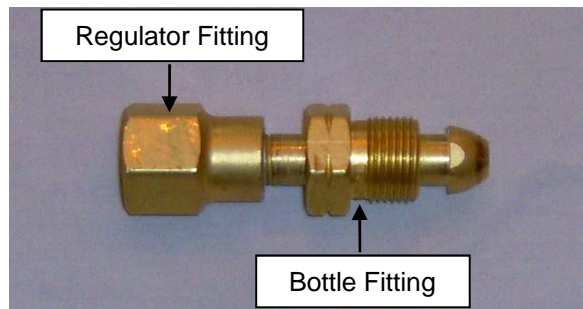

Figure 1
Important Note: Compressed Air Cylinders are supplied with a Female left-hand thread Bottle fitting (CGA-590). Pressure Regulators BEREG01 or BEREG02 supplied in the Blowing Head Equipment Kit have a Male right-hand thread Nut (CGA-580). A CGA-590 Industrial Air Cylinder-to-CGA-580 Nitrogen Regulator Cylinder Adapter is therefore required to connect the Pressure Regulators to the Bottle fitting. One (1) Cylinder Adapter is required for each Pressure Regulator used. **See Fig. 1.**